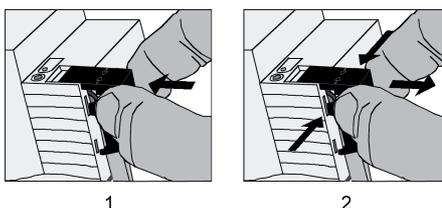

Figure 7: Installing / removing the protective cap for the bus connection
- To install the cap: slide the cap over the bus terminal until you feel it engage (figure 7).
- To remove the cap: Remove the cap by pressing the sides slightly and by pulling it out to the front (figure 7).